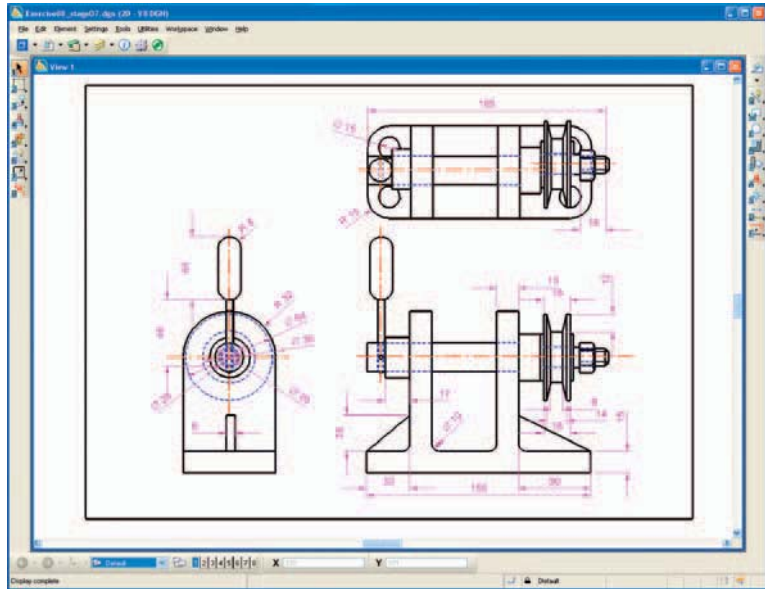

Fig. 10.20 Example – a drawing in MicroStation V8
1. Fig 10.20 is an example of an orthographic drawing constructed in MicroStation V8.